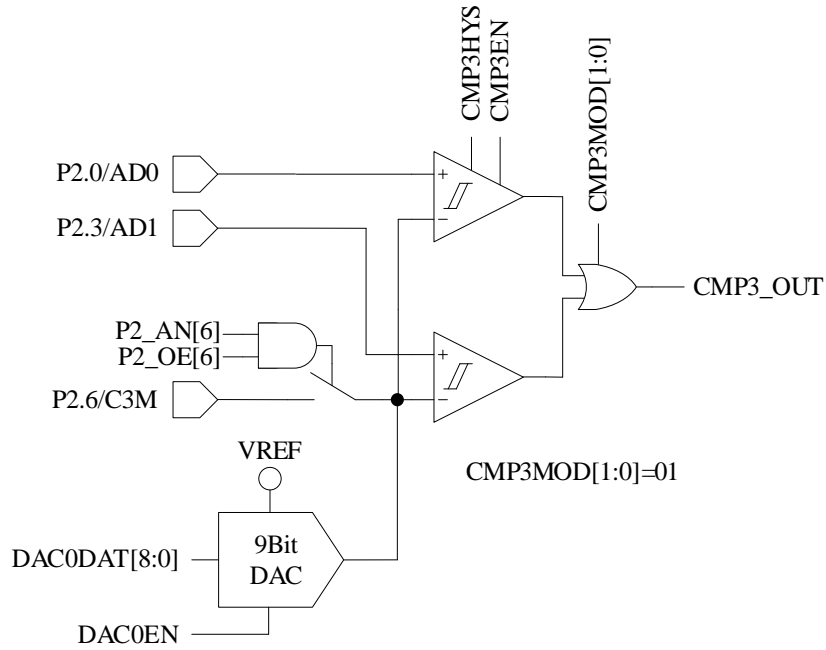

Figure 31-3 Dual-comparator Input Mode
- When CMP\_CR1[CMP3MOD] = 01, CMP3 works in Dual-comparator Input Mode. The connection of input and output pins are shown in Figure 31-3.